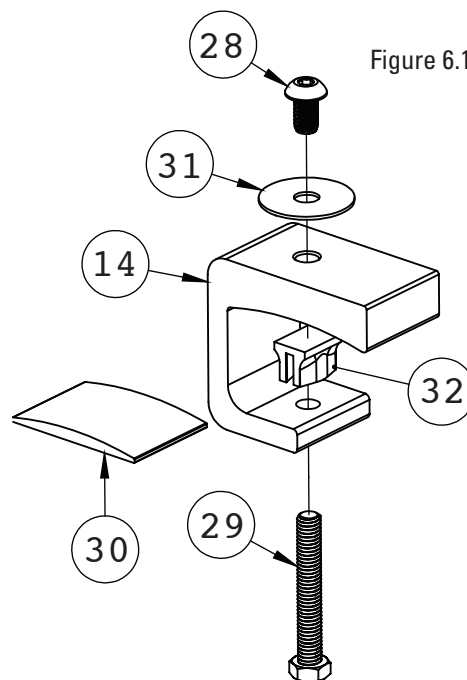

Figure 6.1
1. First, take on of the TB Rear Mounts (Item 14) and thread a 3/8"-16 HHCS (Item 29) in through the bottom of the clamp. (Figure 6.1)
2. Take the C-Channel Clamp Foot (Item 32) and place it on top of the 3/8" HHCS (Figure 6.1)